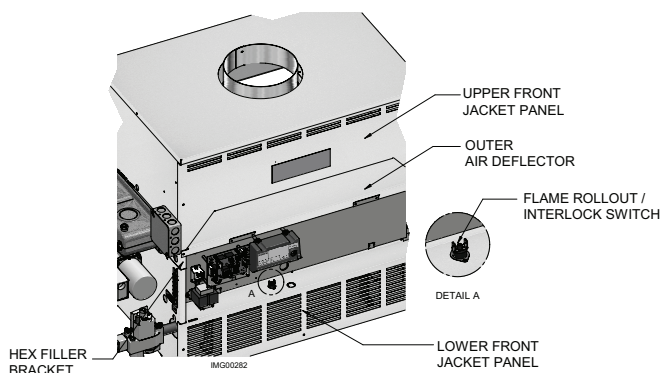

Figure 7-2 Outer Air Deflector and HEX Filler Bracket
- d. Remove the outer air deflector (FIG. 7-2)
- g. Disconnect the wiring from the flame rollout/interlock switch, see FIG. 7-2, page 49.
- q. Remove the heat exchanger (HEX) filler bracket (FIG. 7-2).